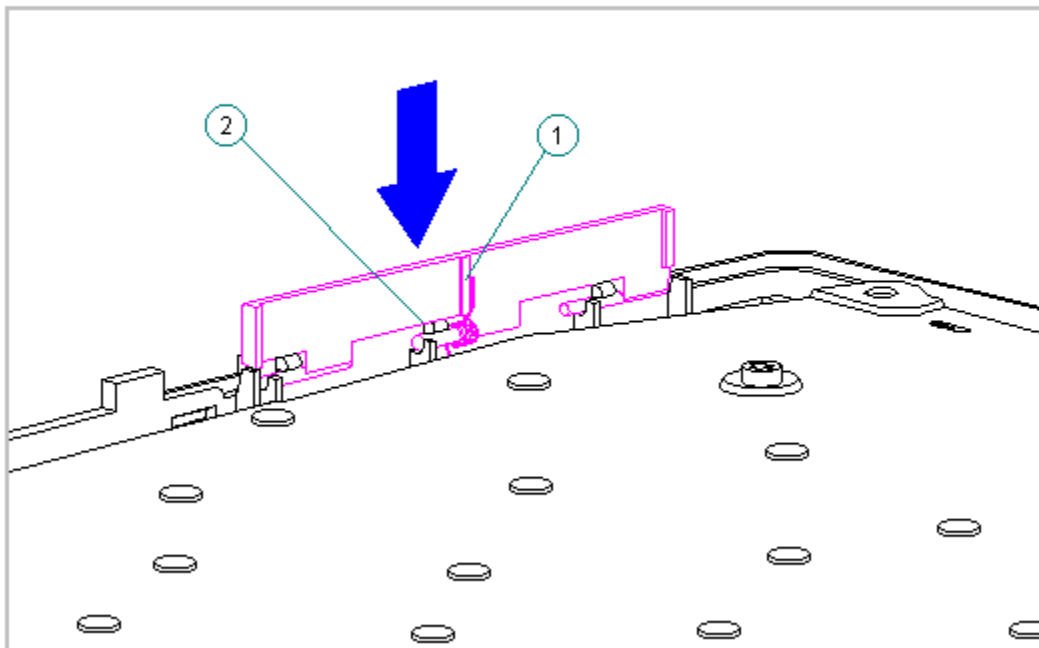

Figure 5-60. Replacing the PC Card Door on the Keyboard Assembly
2. Install the PC Card door, making sure the spring is placed between the notch [1] and the rib [2] (Figure 5-60).